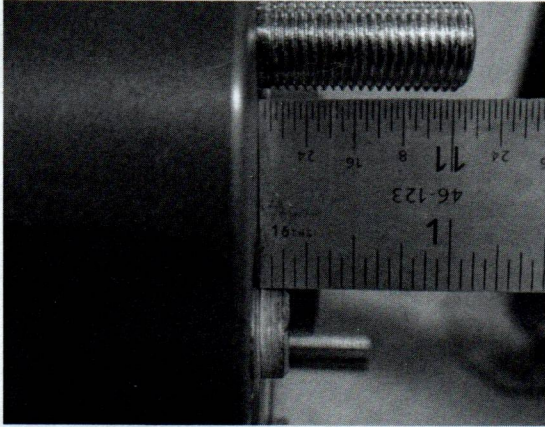
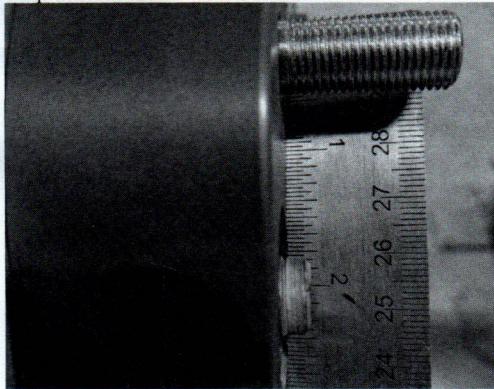

Figure 2. Measuring Stud Extension
Figure 1. OEM Wheel Studs Extending Beyond Face of Wheel Spacer
5. If the factory studs extend beyond the face of the wheel spacer as shown in **Figure 1**, then they must be trimmed. Measure how far the studs extend beyond the spacer as shown in **Figure 2**.
4. Install wheel spacer / adapter to drum / rotor using the lug nuts provided with the kit. **Be sure the spacers clear the OEM wheel studs and are sitting flat against the face of the rotor / drum. Be sure the factory wheel studs are not extending beyond the face of the wheel spacer.** See Figure 1. If the studs do not extend beyond the face of the wheel spacer, proceed to step 10.